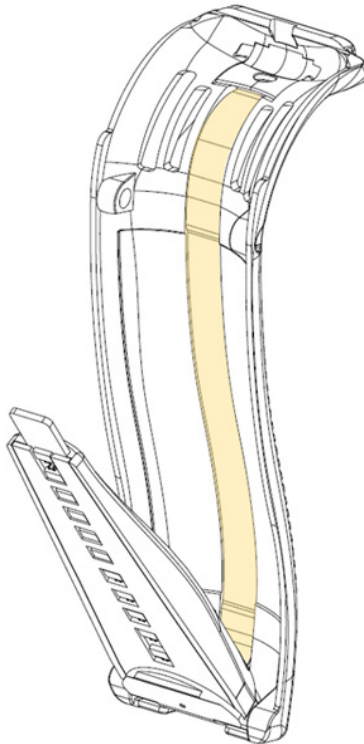

Figure 104: Backstrap's communications strip.
- Check there are no defects in the Backstrap's internal communications strip (Figure 104).